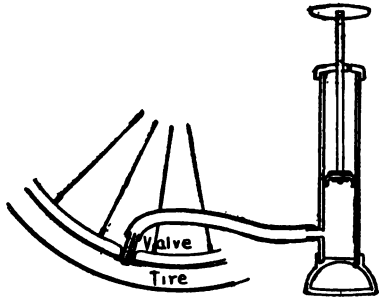

FIG. 310.—BICYCLE PUMP
**316. Bicycle Pump.** In the bicycle pump (Fig. 310) there is no valve in the piston nor at the outlet. There is a valve in the tire, however.